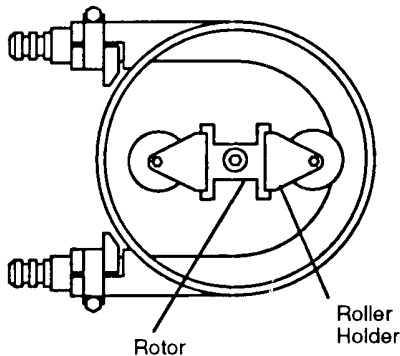

Fig. 9
3. Position the rotor as shown in Fig. 9.